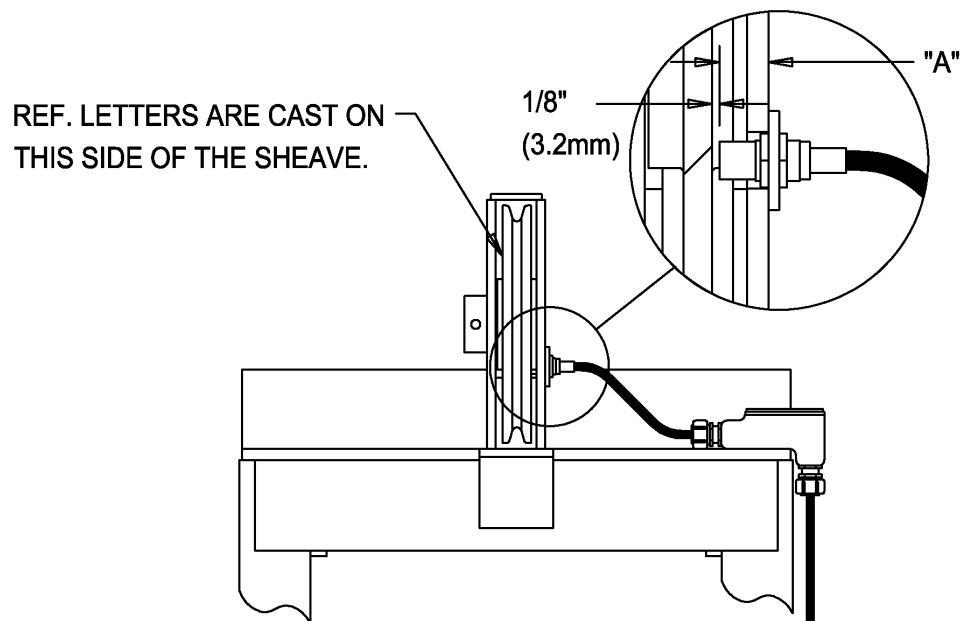

Figure 7-4
The proximity sensor is located on the right hand side of the sheave housing at the top of the lead. To adjust the proximity sensor, refer to Figure 7-4 and use the following procedure:
6. Subtract 1/8" (3.2 mm) from the dimension obtained in step 5. This dimension is dimension "A". (Refer to Figure 7-4)